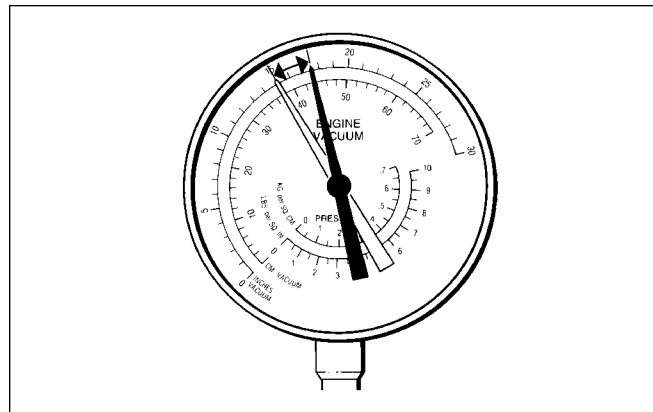

Fig. 1-12. Burned valve or valve not seating. Needle drops regularly below normal.
- If the needle regularly drops 1 to 2 inches from the normal reading, one of the engine valves is burned or not seating properly, figure 1-12